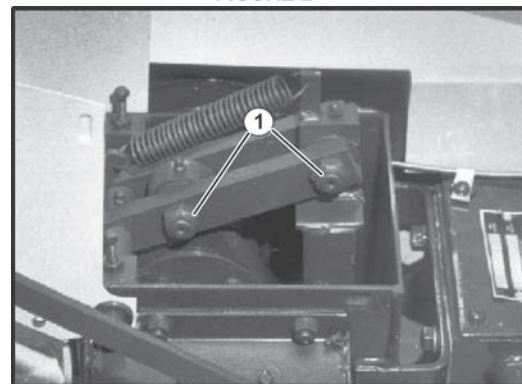

FIGURE 3
6. Remove the two nuts **1** securing right side rocker arm. Slide rocker arm out until the arm can be turned back towards the rear of the unit. (Figure 3)